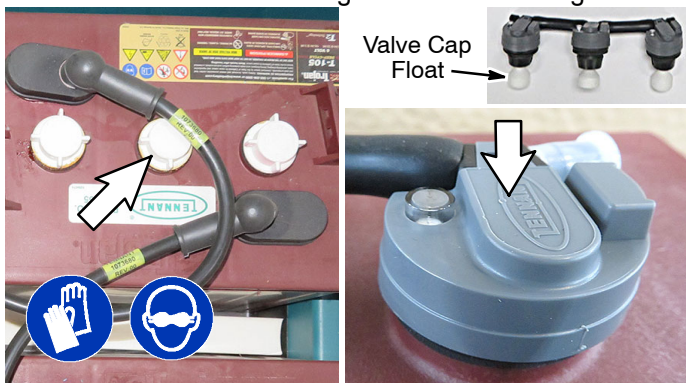

FIG. 1
3. Remove and discard the white battery caps from the Trojan batteries (Figure 1).
4. Install the water valve cap assemblies on batteries. Press each cap until it "clicks" into position (Figure 1). Be careful when inserting valve not to damage float.